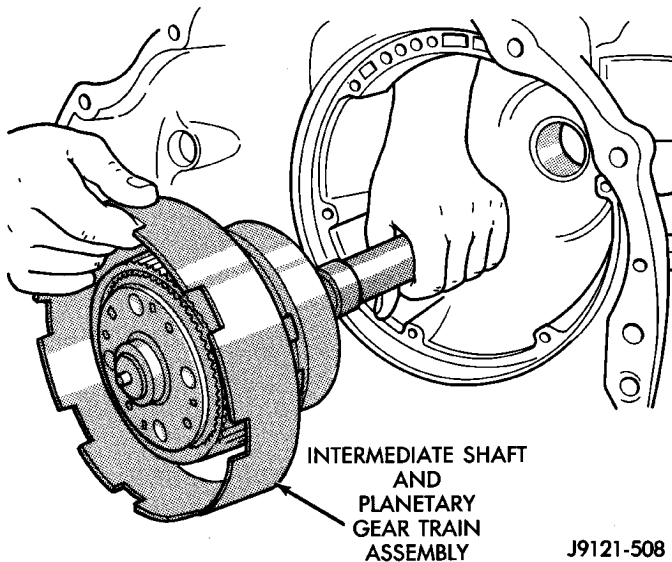

Fig. 114 Intermediate Shaft And Planetary Geartrain
(23) Remove intermediate shaft-planetary gear-train assembly (Fig. 114).
(24) If overdrive unit is not to be serviced, install Alignment Shaft 6227-2 into the overdrive unit to